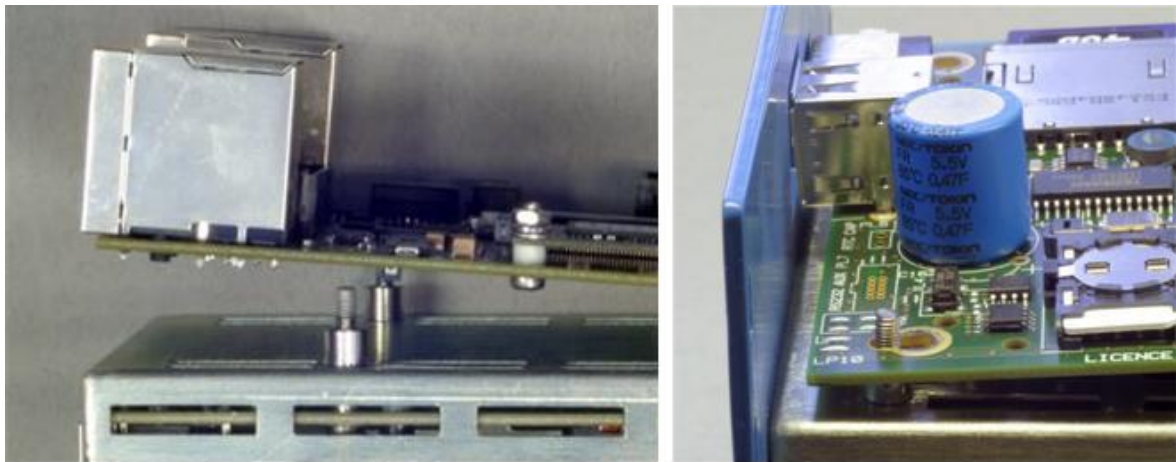

Figure 19 – CPU Removal
3. Lift the **back** of the board clear of the rear mounting studs and slide the board back to clear the front connectors from the front panel then lift the board vertically off the front studs as shown in Figure 19 below.